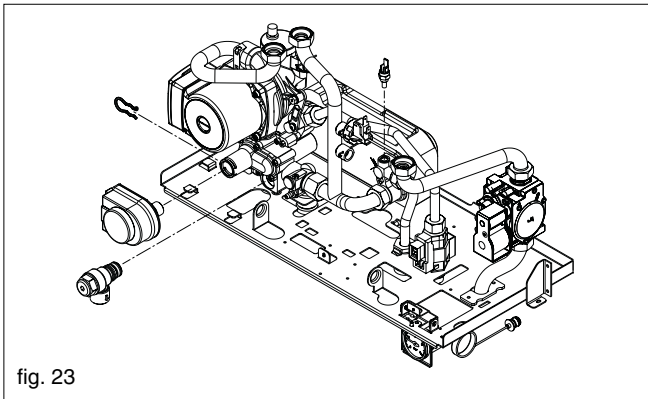

fig. 23
6.6 SAFETY VALVE (fig. 23)
6.8 WATER PRESSURE SWITCH (fig. 23)